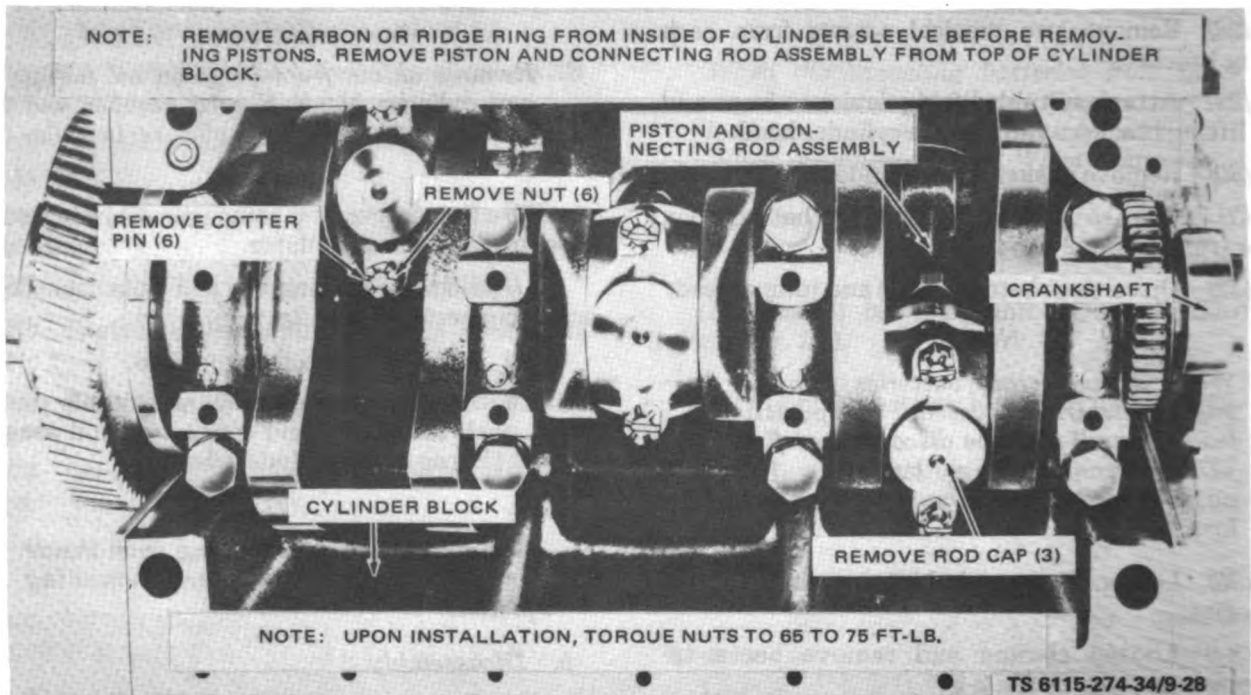

Figure 9-28. Pistons, Rings and Connecting Rods, Removal and Installation
(50) Remove screws attaching oil pump outlet pipe to oil pressure regulator.
(51) Remove cotter pins and nuts from lower end of connecting rods (fig. 9-28).
(52) Remove connecting rod caps.
(53) Using a wooden stick of suitable proportions, push the piston and connecting rod assemblies out the top of the cylinder block.
(1) Install connecting rod caps (fig. 9-28).
(2) Install nuts and torque to 65 to 75 ft-lb (9 to 10.4 m-kp). Install cotter pins.